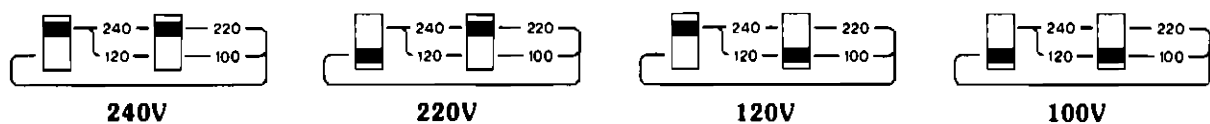

Figure 1-1. Line Voltage Selector Switches
The 9895A can operate on line voltages of 100, 120, 220 or 240 Vac ($\pm 10\%$). The line frequency must be within 2.0% of 50 or 60 Hz. The voltage selector switches on the rear panel must be set to the nominal ac line voltage for the area it is operating in. Figure 1-1 shows the setting of the voltage selector switches for the various line voltages.
2. Check the voltage selection switches on the rear panel (see Figure 1-1). If the setting is incorrect, change it to the correct voltage.